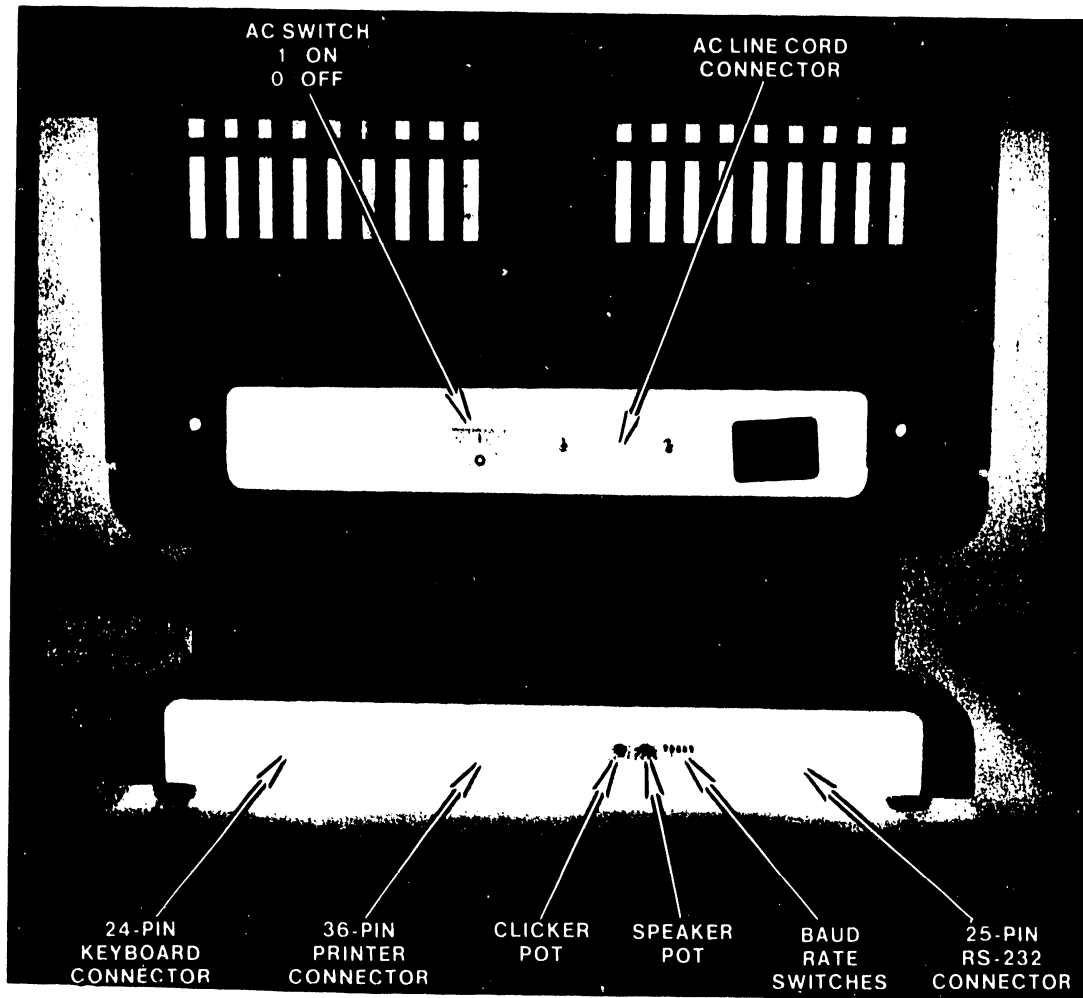

FIGURE 3-2 TERMINAL REAR PANELS
- a. Remove the CRT module cover by removing the the two screws on the rear of the unit. (figure 3-2) Remove packing insert.